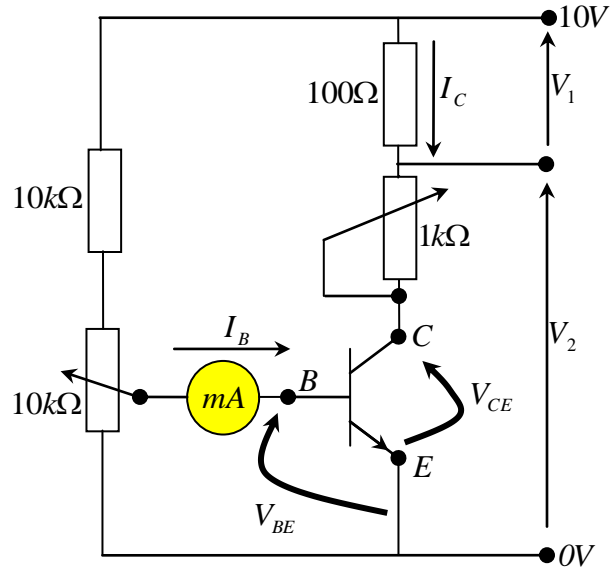

Figure 4. Measurement method for determining the relationship between V_{CE} and I_C .
- Assemble the circuit as shown in Figure 4.